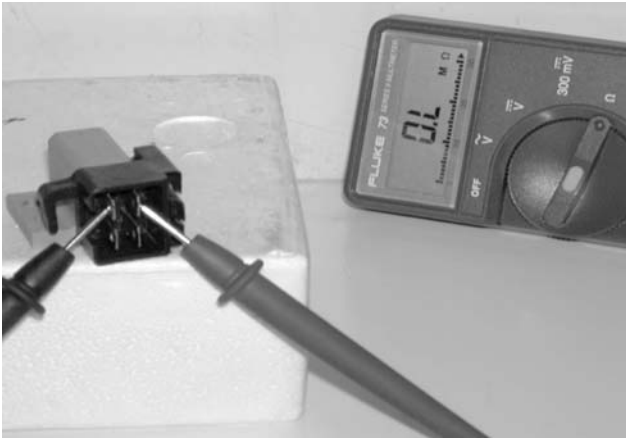

Figure 9-70
6. Place both probes on the NO (normally open) terminals and test for continuity. –There will be **NO CONTINUITY**. See Figure 9-70.